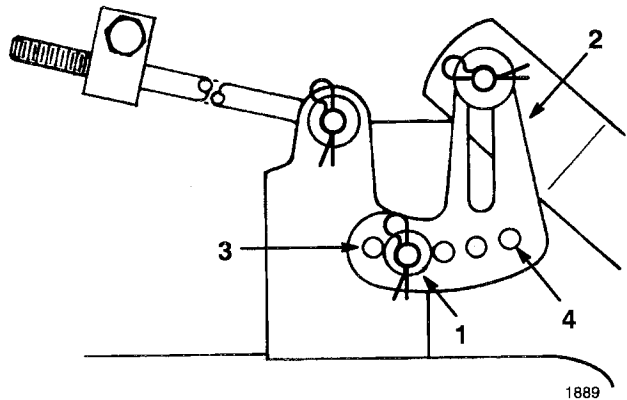

Figure 50
5. Remove the hairpin cotter and washer from the leveling bracket (Fig. 50). To level the blade(s), reposition the leveling bracket in a different hole and install the washer and hairpin cotter. (Fig. 50). A front hole lowers the blade height and a rear hole raises its height. Repeat this procedure on the opposite side.